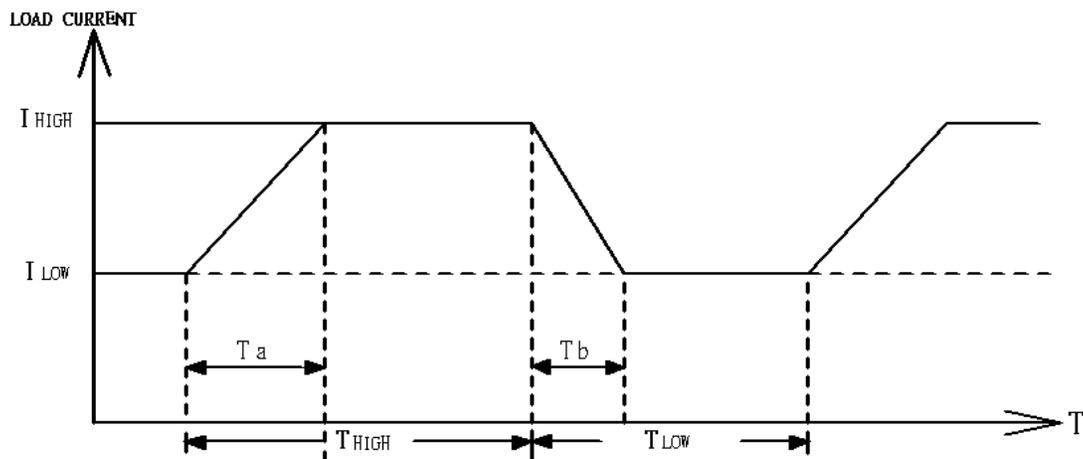

Fig 4-4 Dynamic load current with independent programmed Rise/Fall slew rate
4.3.2.1 Built-in Pulse generator: (Fig 4-4)